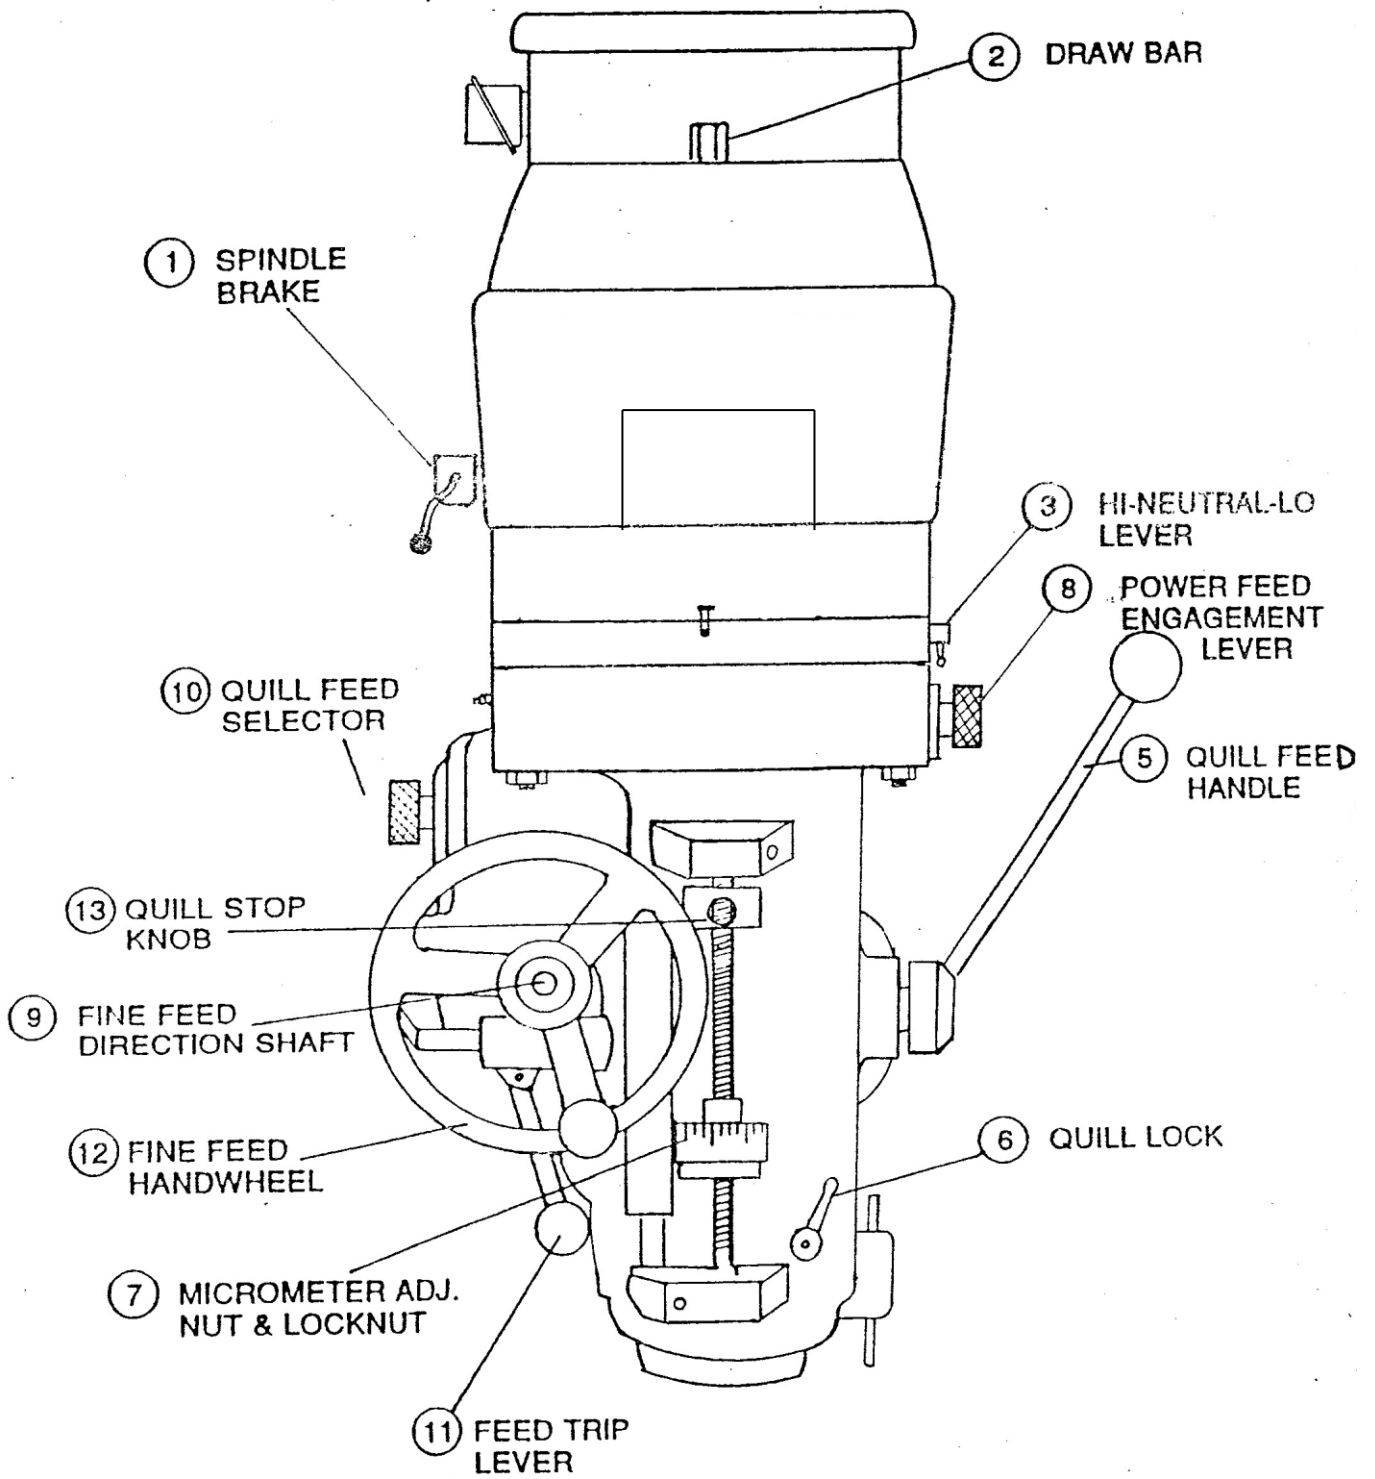

Figure 5.2
5.3 Spindle Brake (Item 1, Fig 5.2)
5.4 Draw Bar (Item 2, Fig 5.2)
5.5 Changing Speeding: High-low-Neutral Lever (Item 3, Fig 5.2)
5.6 Changing Speeds – Variable Speed (Item 4, Fig 5.2)
5.7 Operating the Quill (item 5 & 6, Fig 5.2)
5.8 Adjusting the Quill Stop (Item 7, Fig 5.2)
5.9.1 Power Feed Engagement Lever (Item 8, Fig 5.2)
5.9.2 Fine Feed Direction Shaft (Item 9.Fig 5.2)
5.9.3 Quill Feed Selector (Item 10, Fig 5.2)
5.9.4 Feed Trip Lever (Item 11, Fig 5.2)
The Feed Trip Lever stops the quill feed motion when the quill stop knob (Item 13, Fig5.2) reaches the quill micrometer dial.
- 3. Rotate the Fine Feed handwheel (Item 12, Fig 5.2)**